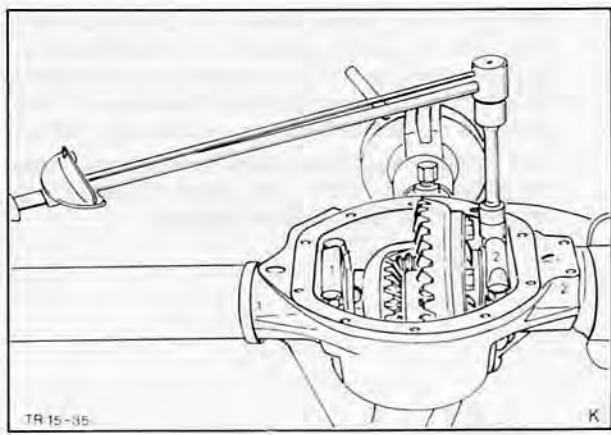

Fig. 92. Fit bearing caps (numbered) and torque bolts as specified
44. Press differential assembly into rear axle. Fit bearing caps (numbers match), Fig. 92. Coat bolts with sealing compound when inserting.